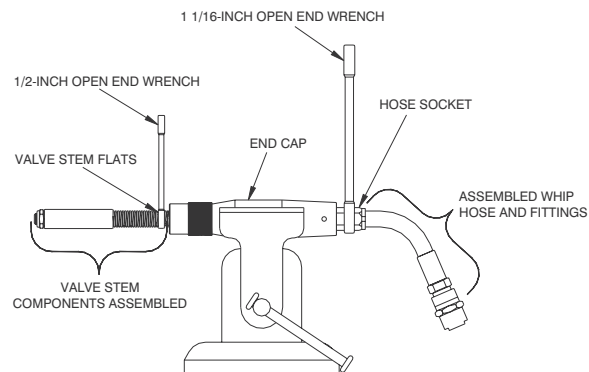

Figure 8-11. Thread the Hose Socket from the Valve Stem.
2. Push the Valve (7) toward the End Cap (16) until the flats of the Hose Socket (17) project from the Whip Hose end of the End Cap. Refer to Figure 8-11.
3. With an xx-inch open end wrench across the flats of the Hose Socket (17), thread the Hose Socket from the Valve Stem. Refer to Figure 8-11.